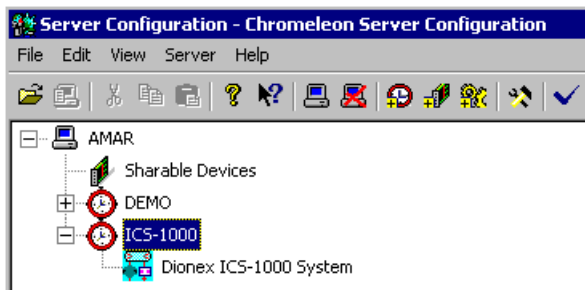

Figure 12. Server Configuration with ICS-1000 Timebase
- Click the + icon next to the server name to expand the folder. The timebase you created is displayed (see Figure 12).